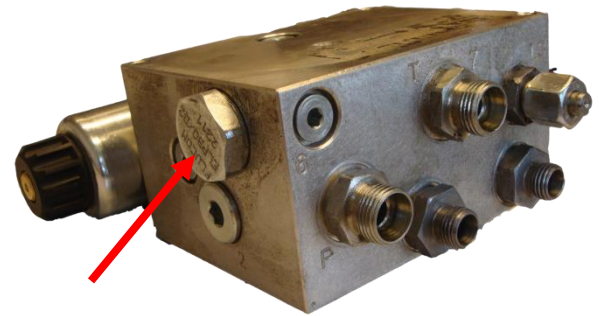

Figure 4 Selector plug
The manifold can be used either in Load-Sense (LS) mode or in Open Center (OC) mode. A selector plug should be used, depending on the type of hydraulics used (Table1, Figure 5). Check the type of selector plug (Figure 4) before mounting the manifold.